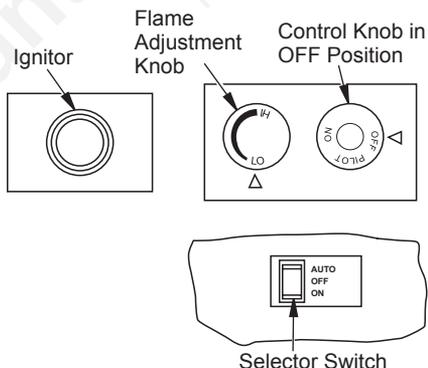

Figure 33 - Control Knob, Ignitor Button and AUTO/OFF/ON Switch
4. Press in and turn control knob clockwise  to the OFF position (see Figure 33, page 24).
5. Wait five (5) minutes to clear out any gas. Then smell for gas, including near the floor. If you smell gas, STOP! Follow "B" in the safety information, column 1. If you don't smell gas, go to the next step.
- Press in and turn control knob counterclockwise  to the PILOT position. Press in control knob for five (5) seconds (see Figure 33).